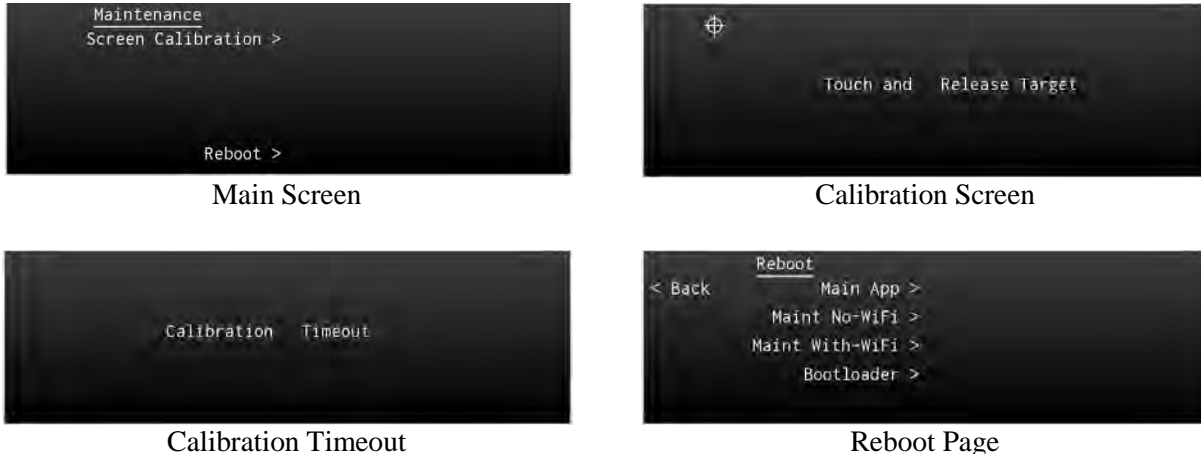

Figure 4-2: Maintenance Mode Screens
5. The Maintenance Mode windows are shown in Figure 4-2.